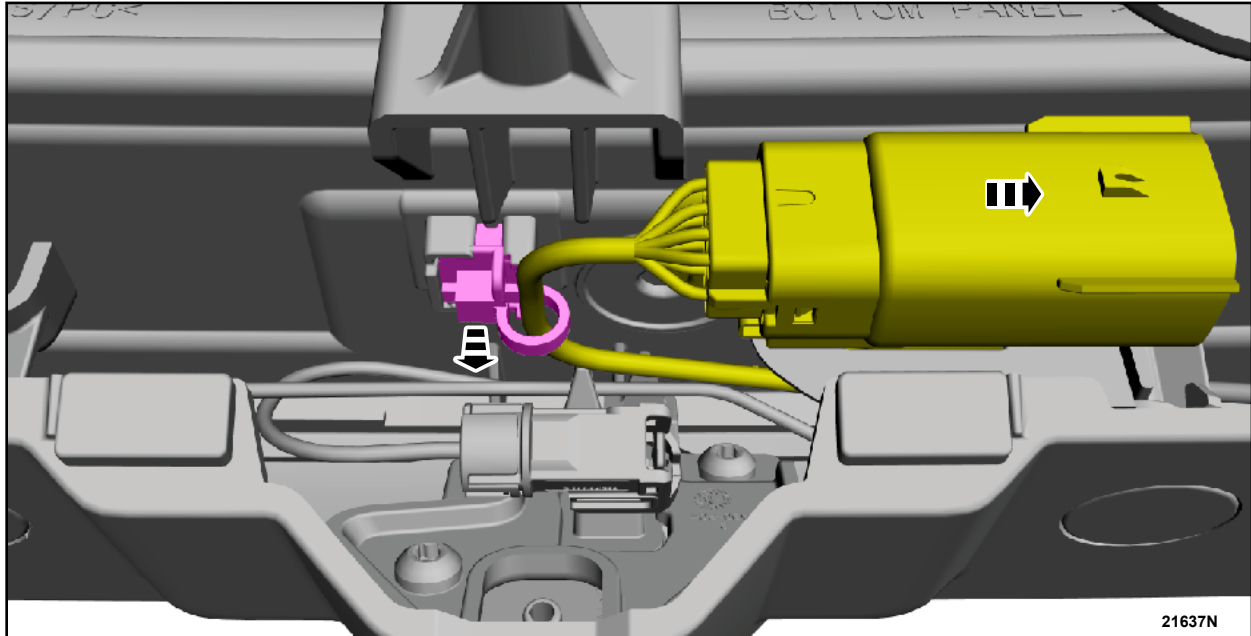

FIGURE 9
3. Disconnect the wiring guide and position the electrical connector aside. See Figure 9.